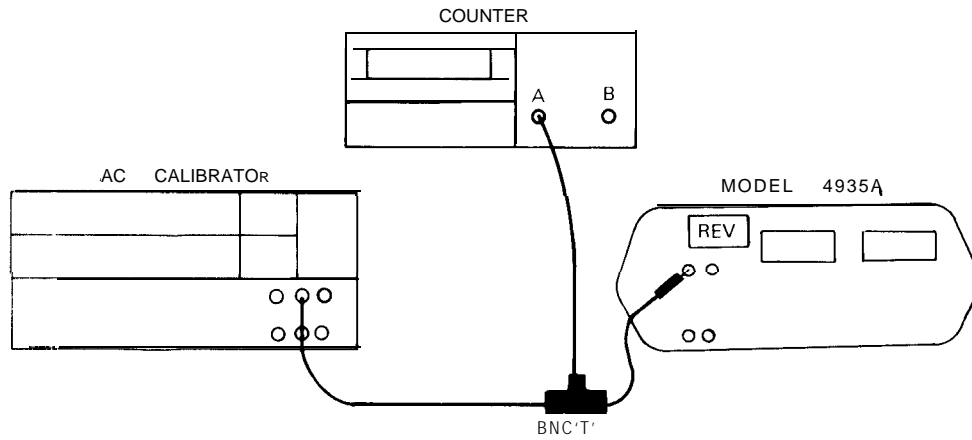

Figure 4-3. Receiver Test at +11 dBm and -40 dBm
1. Use the test setup shown in Figure 4-3.